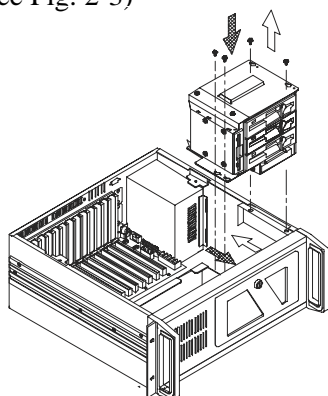

Figure 2-2: Inserting/removing the drive bay
1. Remove the four outer screws which mount the shock-resistant drive-bay to the chassis. (See Fig. 2-2)